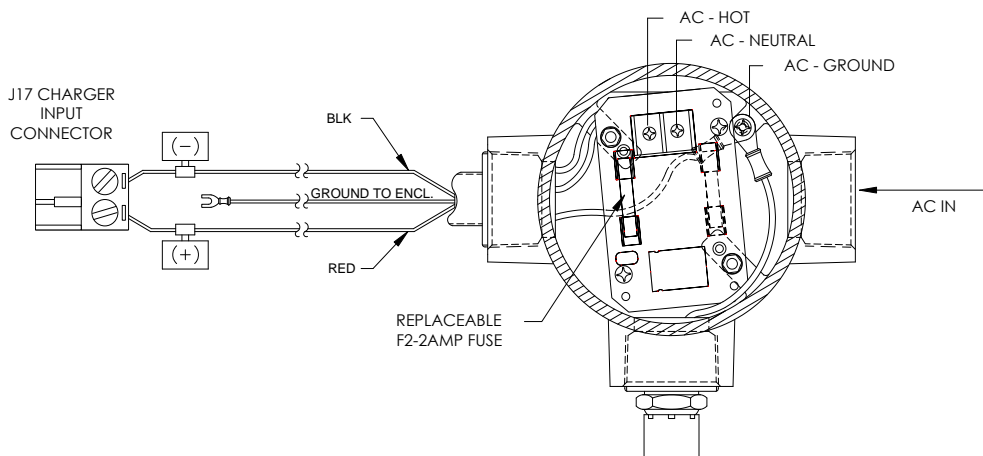

Figure 99: AC-DC Charger Wiring Instructions
- Check the dc wiring to the J17 charger input termination block connector (Figure 99:).
- If there is no dc output from the charger, replace charger fuse (Figure 99:).